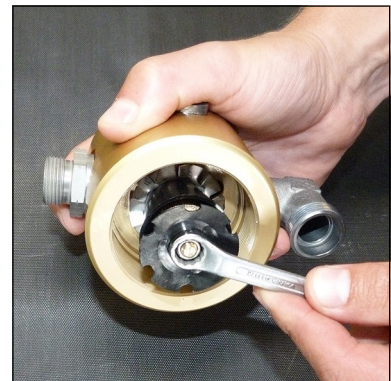

Fig. 1 - Loosen nut at the separator top
- Open nut and remove separator top (Fig. 1).